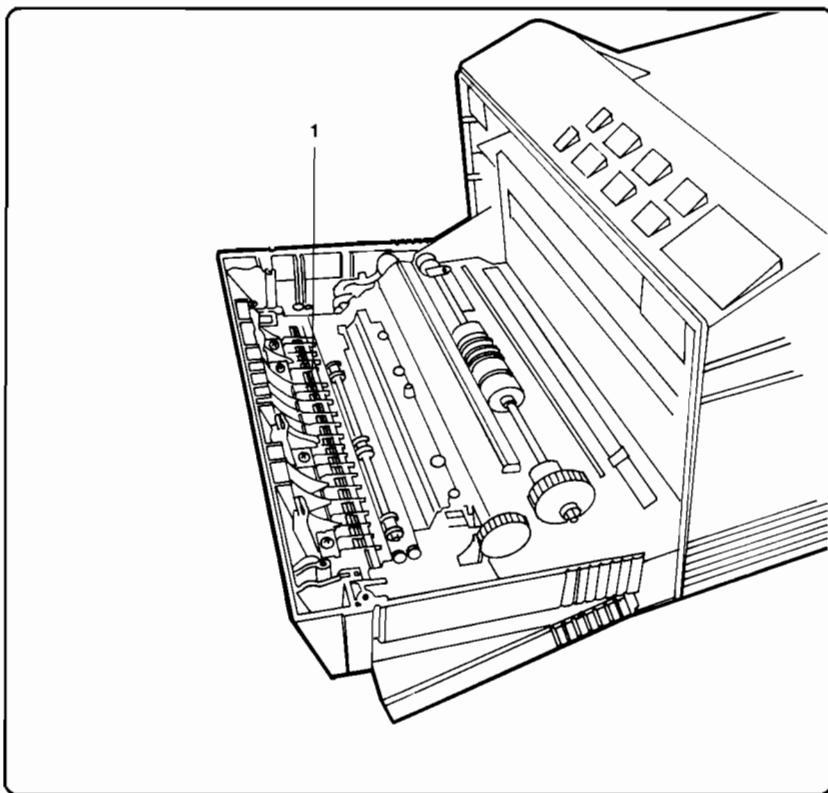

Figure 6-68. Paper Output Tray Deflector Removal
4. Lift out the Paper Output Tray Deflector (see Figure 6-68, callout 1).